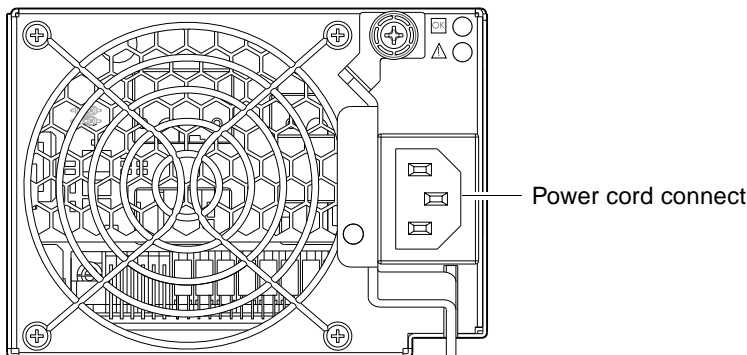

Figure 11 AC PSU
2. Plug the power cord into the power cord connector on the back of the drive enclosure (see Figure 11). Plug the other end of the power cord into the rack power source. Wait several seconds to allow the disks to spin up.
3. Plug the power cord into the power cord connector on the back of the controller enclosure (see Figure 11). Plug the other end of the power cord into the rack power source.